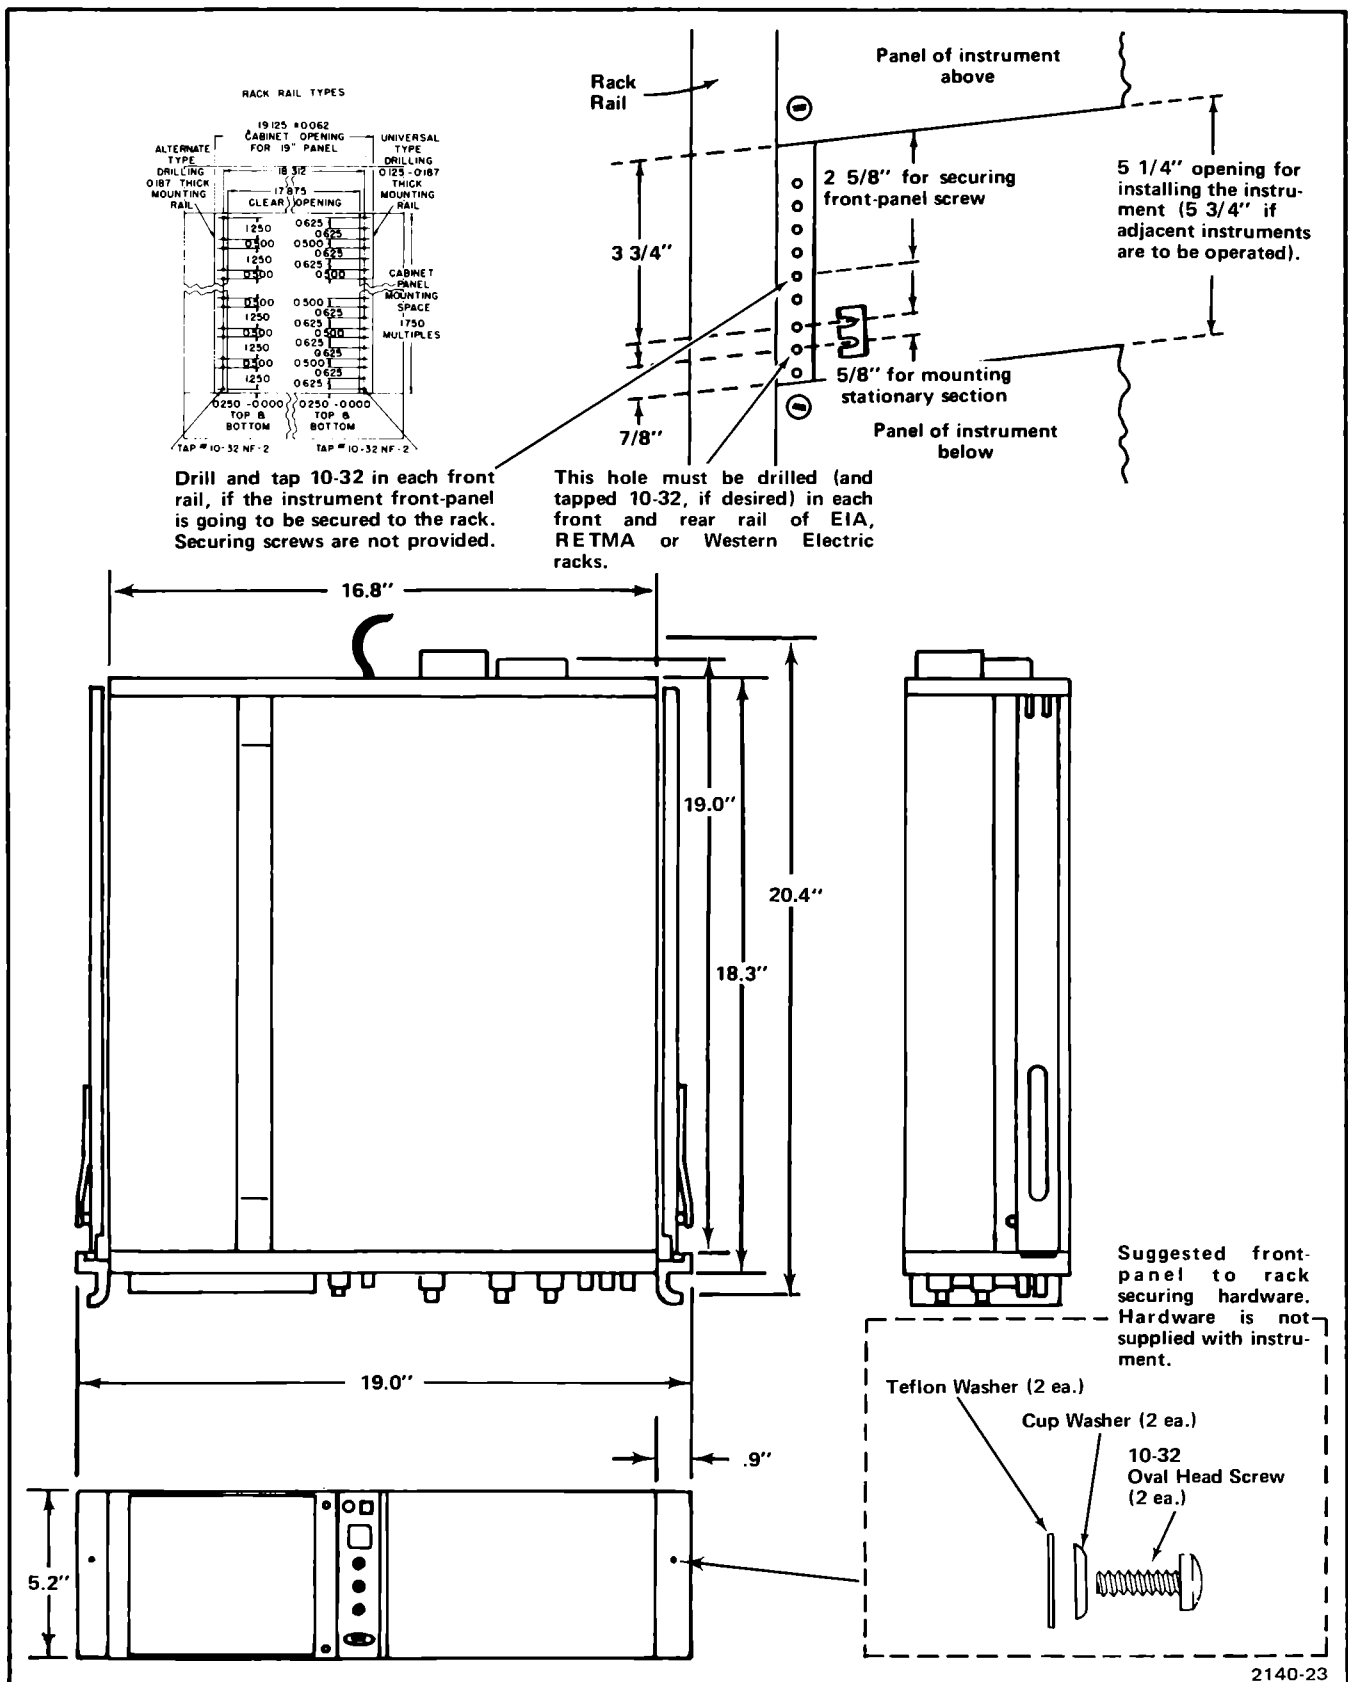

Fig. 2-5. Dimensional diagram.
1. To mount the instrument directly above or below another instrument in a cabinet rack, select the appropriate holes in the front rack rails for the stationary sections, using Fig. 2-5 as a guide.
To secure the instrument front-panel to the rack, the rack must either have universal hole spacing, or a hole must be drilled and tapped for a 10-32 screw, see Fig. 2-5. Using the hardware (not furnished) indicated in Fig. 2-5, secure the 5441 to the front rails of the rack.